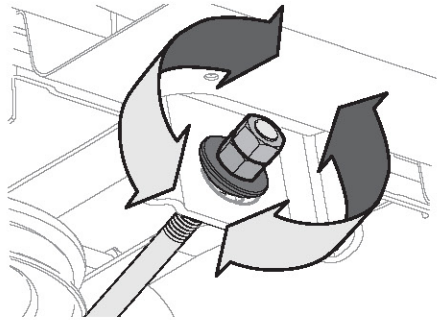

Figure 37
4. To raise the front of the deck, loosen the outer nut then tighten (thread inward) the inner nut against the front hanger bracket. See Figure 37. When proper adjustment is achieved, re-tighten the outer nut to 25-30 ft-lbs (34 mm-40.7 N-m).
5. To lower the front of the deck, loosen the outer nut then loosen (thread outward) the inner nut, away from the front hanger bracket. See Figure 37. When proper adjustment is achieved, re-tighten the outer nut.